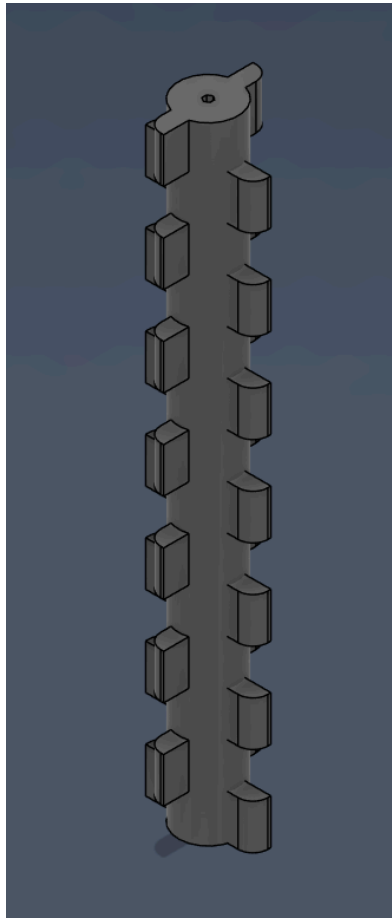

Figure G.6: Intake claws
4. Attach each 3D printed intake claw to the 3D printed intake claw as shown in Figure G.6.